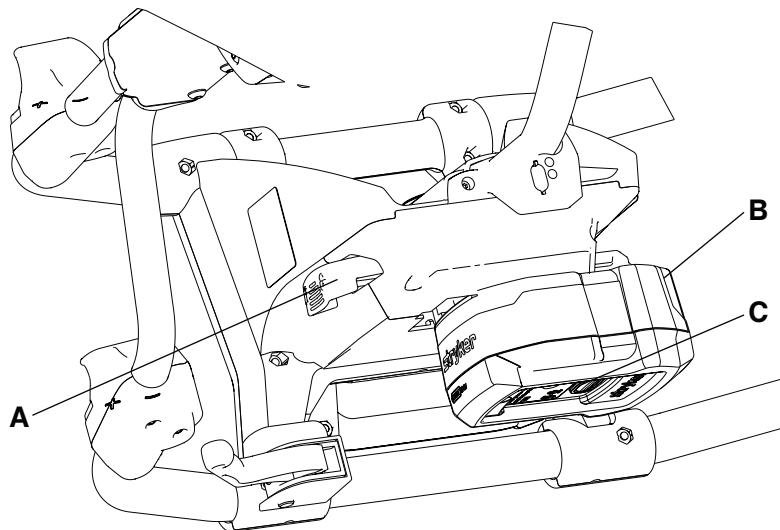

Figure 41 – Releasing the battery
1. Press the red one hand release button (C) or press the battery release button (A) to release the **SMRT** Pak (B) from the cot (Figure 41).